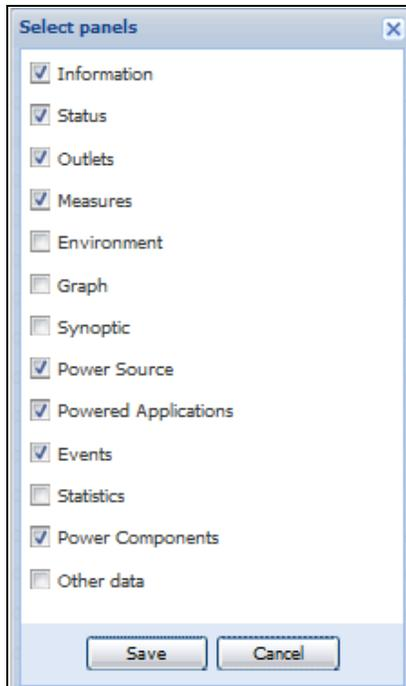

Figure 38. Panel Selection Dialog Box
4. Select or deselect (check or uncheck) to select which panels you want to add in the selection view (see Figure 38).